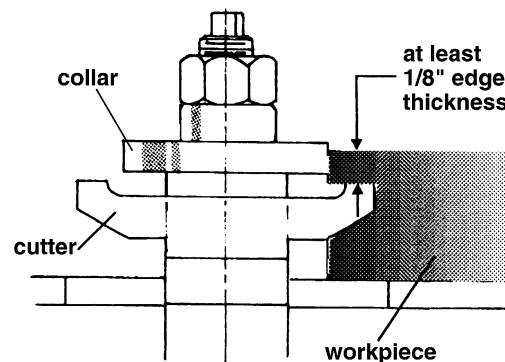

Figure 35
**Note:** Since the collar requires at least 1/8" of surface edge to ride against, the entire edge cannot be shaped as shown in Figure 35. The added use of a pattern, however, permits the shaping of the entire contour edge.